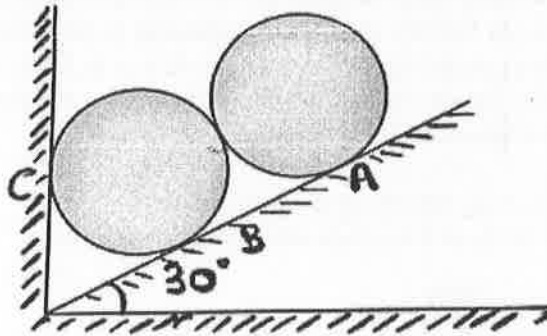

Figure 7
- Q.7 a) Two identical rollers each of mass 50kg and radius 'R' are supported by inclined plane and a vertical wall as shown in Figure 7. Assuming smooth surfaces, find the reactions induced at the point of support A, B and C. (10)